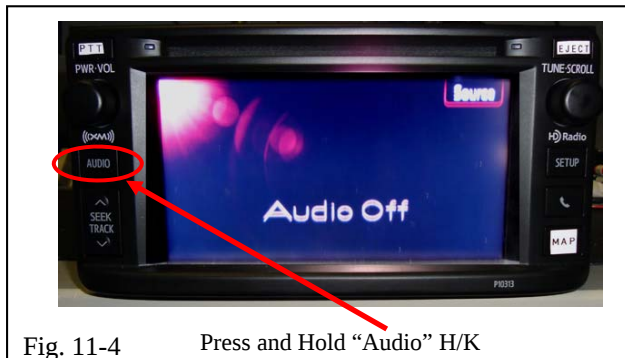

Fig. 11-4 Press and Hold “Audio” H/K
- (1) Turn ACC ON.
- (2) Once the DA radio is powered on, press and hold the “Audio” hard key (Fig. 11-4).
- (3) While holding the Audio H/K, switch ON and OFF the headlights three consecutive times in quick succession.